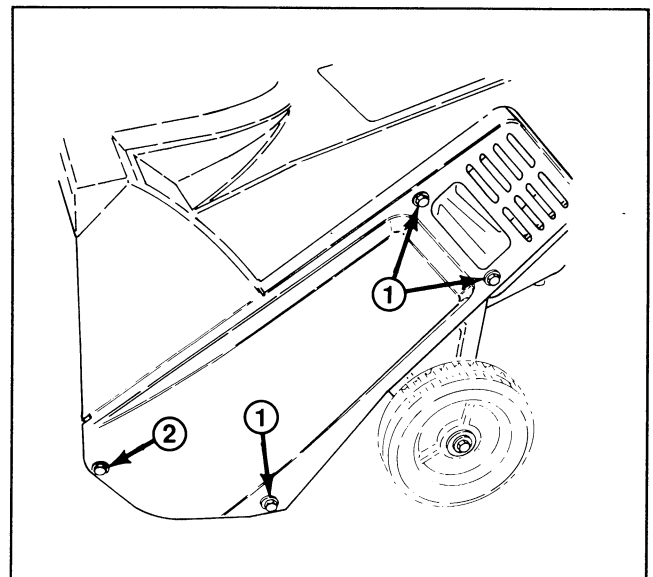

Figure 11
REPLACING DRIVE BELT (Figs. 11–13)
2. Remove (3) self tapping screws, (1) capscrew, (1) washer, and (1) nut securing left side cover to snowthrower frame (Fig. 11). Remove cover.